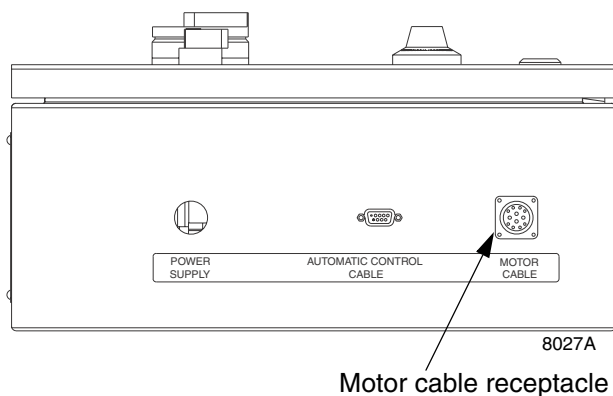

FIG. 8
3. Using 16 AWG wire or larger, connect electrical power to L1 (hot), L2 (neutral) power terminals in the PrecisionSwirl control assembly. See FIG. 8.
1. Locate the receptacle on the bottom of the control assembly that is labeled MOTOR CABLE. See FIG. 8.